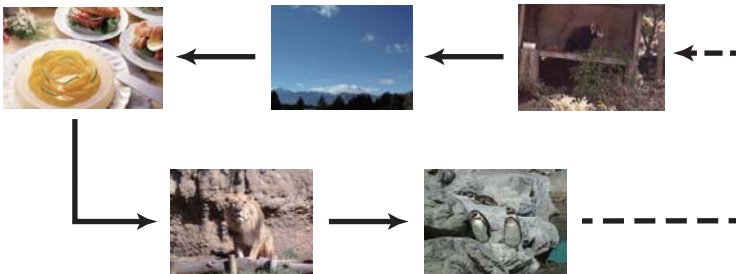

Fig. 5.4 Slide Show Mode
The Slide Show Mode (Fig. 5.4) displays a full screen image and switches the images at intervals set in the Display time. The Display time can be set by the Playlist (116) and menu. (111)